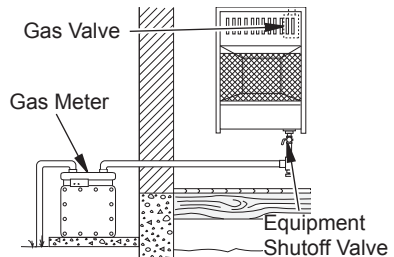
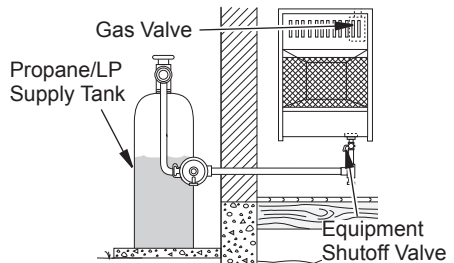

Figure 17 - Natural Gas Supply
Figure 18 - Propane/LP Fuel Supply
3. Check all joints from gas meter (natural gas installations, see Figure 17) or from propane/LP tank (propane/LP gas installations, see Figure 18) to equipment shutoff valve. Apply mixture of liquid soap and water to gas joints. If bubbles form, there is a leak.
5. Check all joints from equipment shutoff valve to control valve (see Figure 17 or Figure 18). Apply mixture of liquid soap and water to gas joints. If bubbles form, there may be a leak.